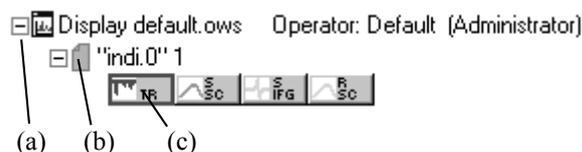

Figure 10: Browser file list
- The small icon bar underneath the file name represents data blocks which are part of the spectrum file. The data blocks displayed in figure 10 indicate a transmission spectrum, single-channel spectrum, interferogram and single-channel background spectrum. For further data blocks, see Appendix. If the data block symbols are colored, this indicates that spectra or interferograms are displayed within the spectrum window. Use the left mouse button to select one data block. If you press the *CTRL* key, you can select more than one data block. Selected data blocks are always indicated by a red frame.